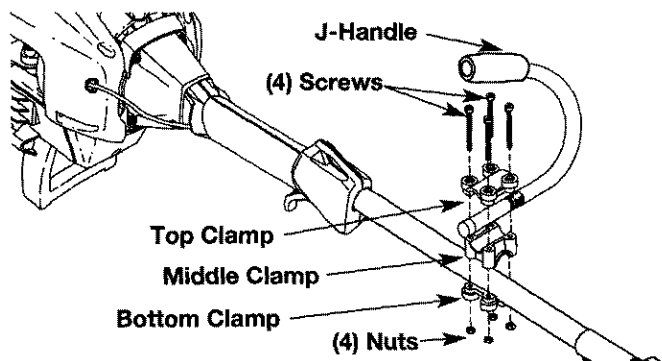

Fig. 1
2. Place the J-handle between the top and middle clamp pieces (Fig. 1).